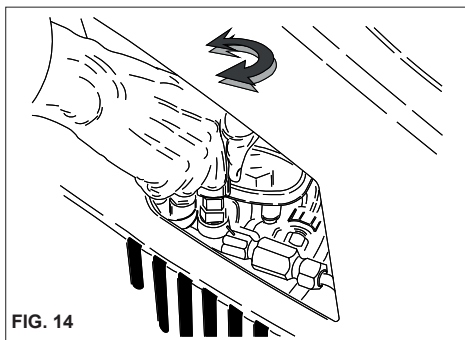

FIG. 14
This chapter concerns only those models provided with the "pressure regulating" device. The pressure regulator, fig. 14, allows the operator to adjust the working pressure. When knob C is turned in an anti-clockwise direction (B) (minimum), the working pressure is reduced.